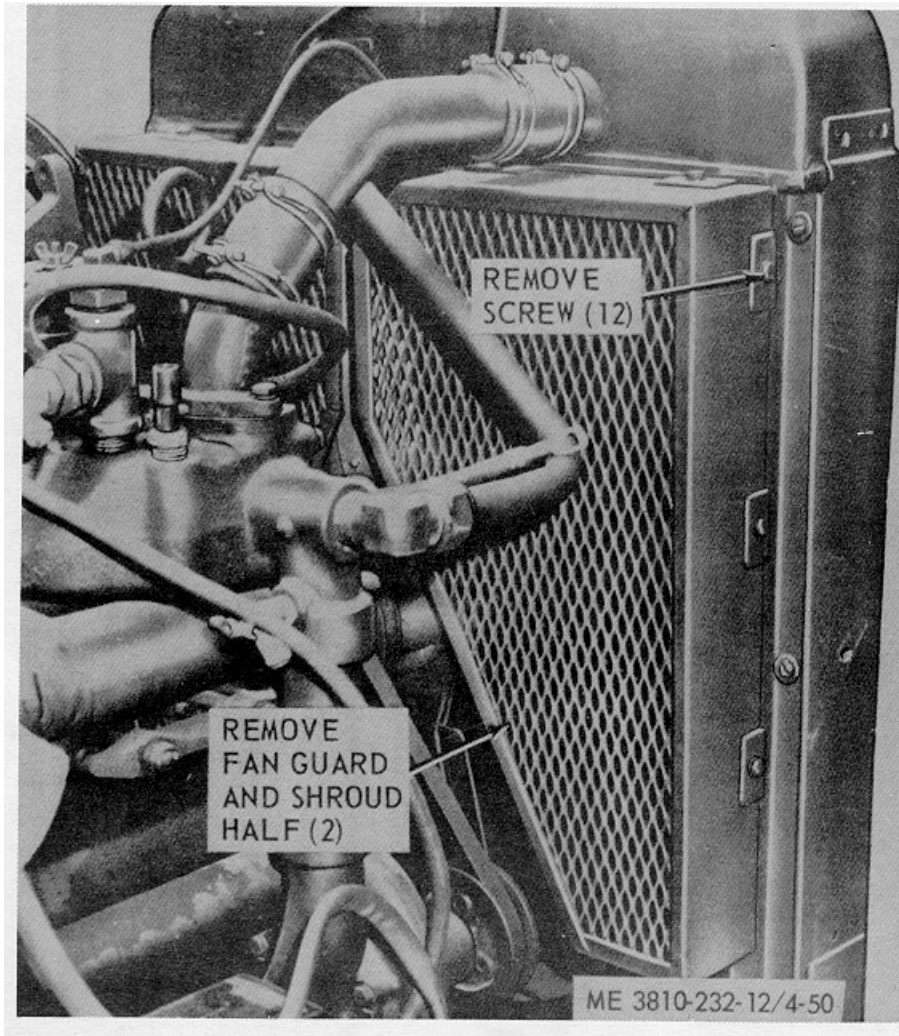

Figure 4-50. Crane engine radiator fan guards, removal and installation.
- a. *Removal.* Remove radiator fan guards as illustrated in figure 4-50.
(1) Clean the radiator fan guards with a damp cloth.
(2) Inspect parts for defects. Replace defective parts.
c. *Installation?.* Install radiator fan guards as illustrated in figure 4-50.